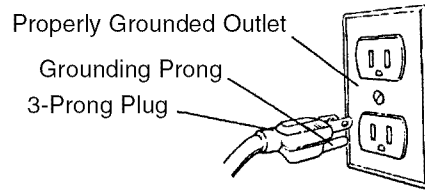

Figure 3 - 3-Prong Receptacle
Refer to Figures 3, 4, 5, 6, and 8, page 4, 5 and 9.
- This tool is equipped with an approved 3-conductor cord rated at 150V and a 3-prong grounding type plug (Figure 3) for your protection against shock hazards.
- Grounding plug should be plugged directly into a properly installed and grounded 3-prong grounding-type receptacle, as shown (Figure 3).